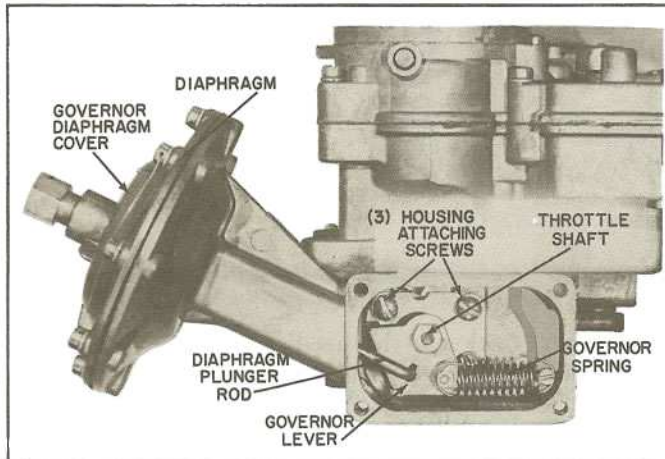

FIGURE 20
Disassembly of the 2G Governor Throttle Body (Fig. 20)
3. Install seal retainer plate, attaching with (3) screws and lockwashers. Tighten securely. (Lip on seal will protrude through retainer plate when installed correctly). Lubricate seal with light motor oil.
5. Line up holes in governor diaphragm with holes in diaphragm housing. Install diaphragm cover and (8) attaching screws and lockwashers. Leave screws loose so that diaphragm can move freely between cover and housing, until after diaphragm adjustment is made. See step 9.
7. Install governor lever on end of throttle shaft as shown (Fig. 20). Make sure flats on lever are seated on flats on throttle shaft. Install retaining nut and lockwasher. Tighten securely.
10. Install governor housing side plate using (4) attaching screws and lockwashers. Tighten securely.